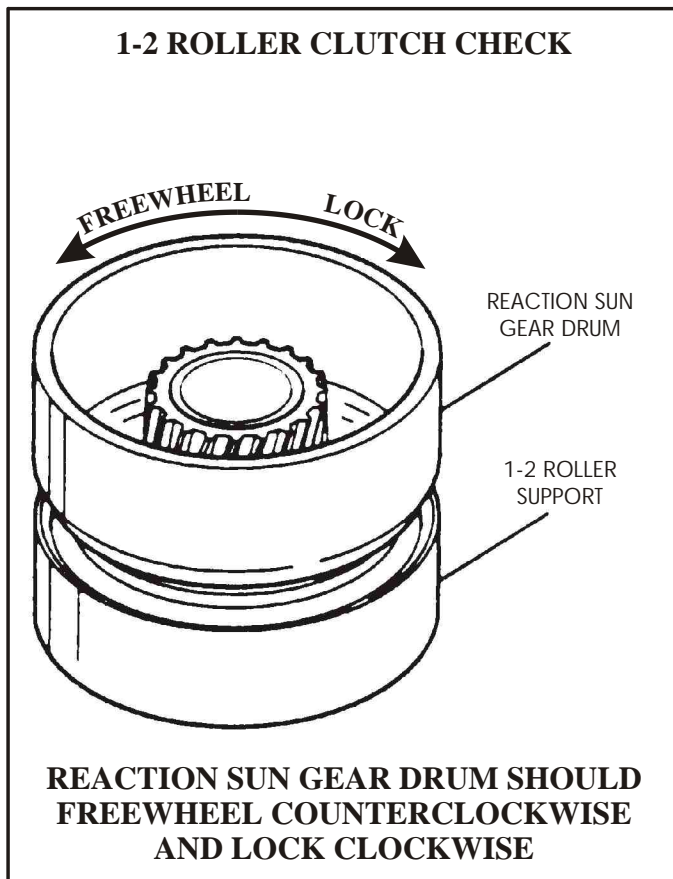

Figure 93
6. With the 1-2 roller clutch support assembly on the bench as shown in Figure 93, install the sun gear drum with the outer race onto the roller clutch by rotating counter clockwise until it is fully seated in the 1-2 roller support.
7. The reaction sun gear drum should freewheel counter clockwise and lock clockwise as shown in Figure 93.